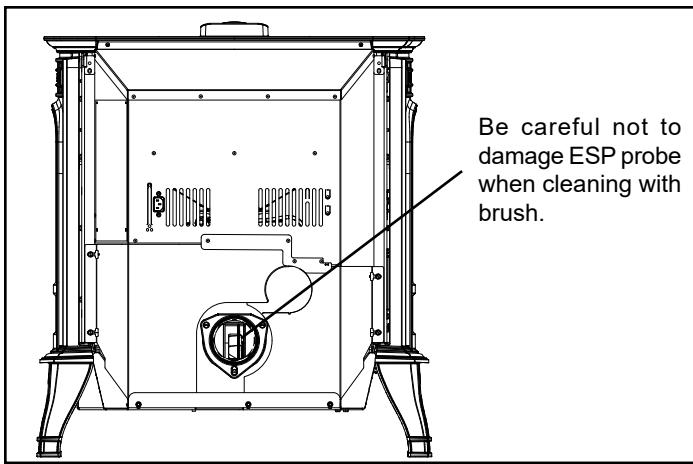

Figure 2.9
- The exhaust passage may need cleaned as well. Keep in mind the ESP Sensor is located just inside the exhaust passage Figure 2.9. Be sure not to damage the ESP Sensor while cleaning this area.